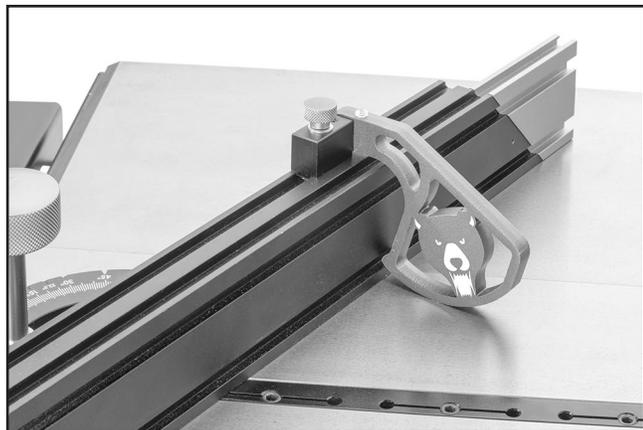

Figure 14. Flip stop installed in rear fence T-slot.
- Rear T-slot (see **Figure 14**) will allow flip stop to support workpieces thinner than 2".